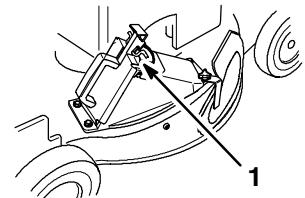

Figure 45
6. Release the door latch, allowing it to hook over the tabs on the plug (Fig. 45).